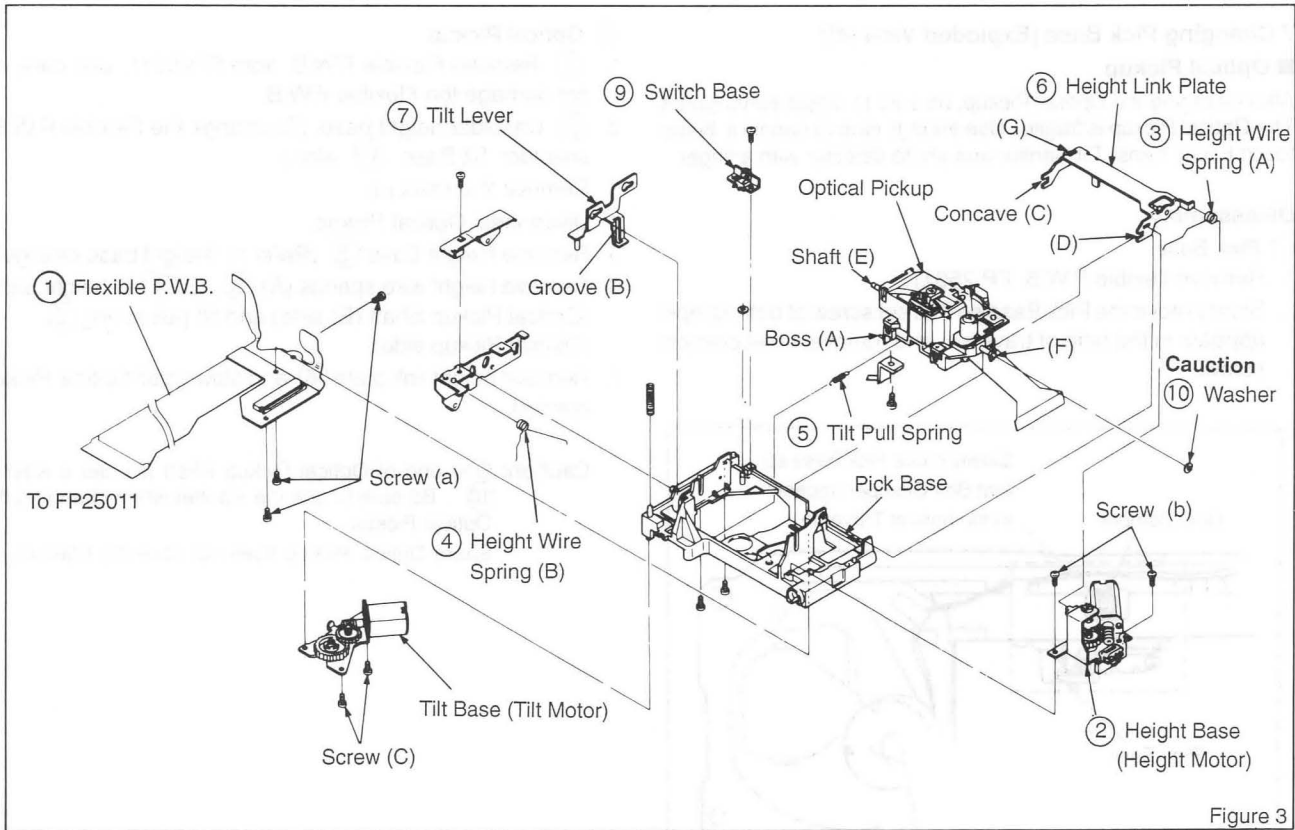

Figure 3
1. Confirm the Boss (A) of Optical Pickup is set to Tilt Lever Groove (B), and install Tilt Pull Spring ⑤ .
2. Install Height Link Plate ⑥ : Slightly move Optical Pickup so that Concave (C), of Height Link Plate ⑥ , (D) inserted to Pickup Shaft (E) and (F), and confirm (G) of Height Link Plate ⑥ is pushing the switch of Switch Base ⑨ as per Figure 3.
3. Install Height Wire Spring (B) ④ .
4. Connect Optical Pickup Flexible P.W.B. ① to relay Flexible P.W.B. and secure the P.W.B. with 3 screws (a).
5. Install Height Wire Spring (A) ③ and Height Base ② .
6. Solder relay Flexible P.W.B. to Height Base ② .